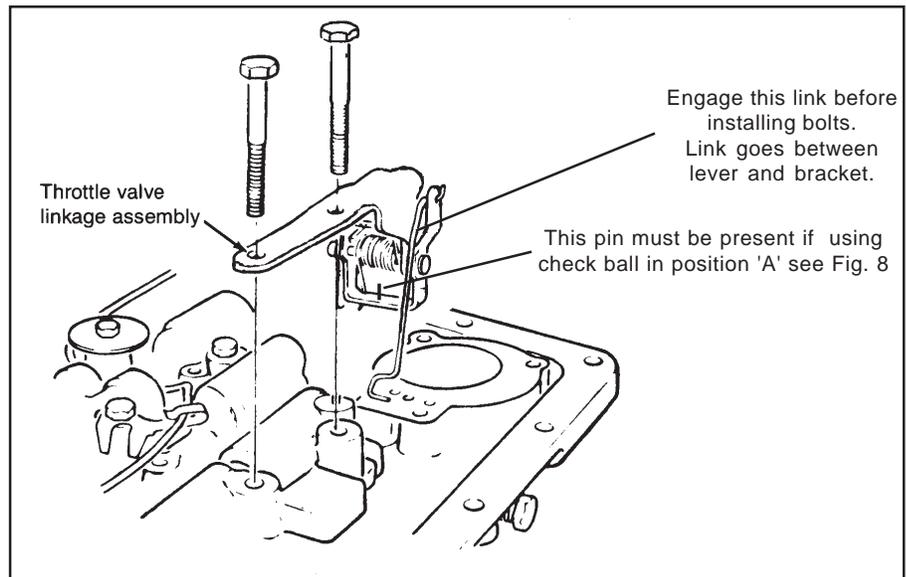

Figure 12
STEP 16. Street Only; Remove the spring and piston from the 1-2 accumulator housing (See Fig. 12.) Install both the **BLUE** and the **RED** spacers over the pin, then the piston (notice orientation.) No spring is used for **Street** level performance.
STEP 20. Install the throttle valve (TV) linkage onto the valve body as shown (**See Fig. 12.**) Engage the cable link with the large lever first. Hold the large lever up and the smaller one down. Then slip the assembly into position aligning it with the hold down bolt holes and engage the roll pin in the slot on the bracket. Insert bolts and tighten to 11 NM (8 Lb. Ft.) then make sure large lever operates freely. **IMPORTANT:** The TV cable **MUST** be reset before operating vehicle refer to step 24.